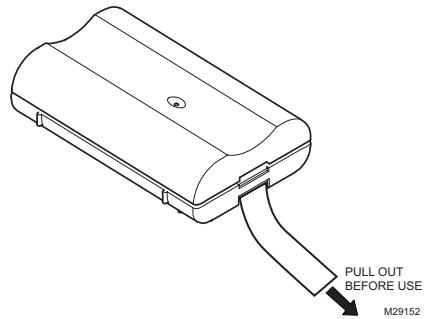

Fig. 5. Battery tab removal.
1. Remove battery tab before installation. See Fig. 5.
- Remove the battery tab from the sliding door/window sensor. See Fig. 5 on page 4.